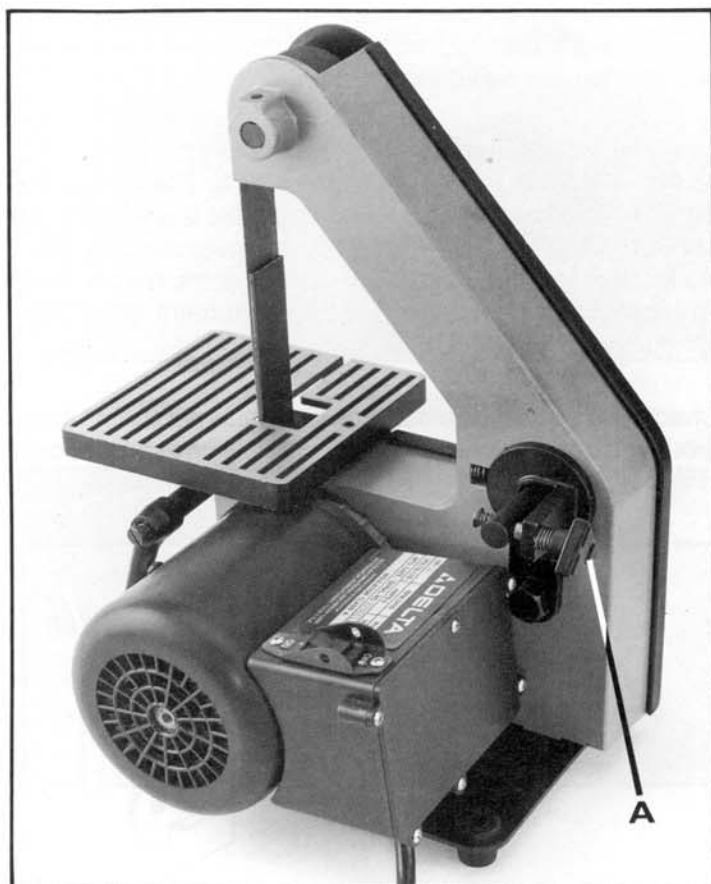

Fig. 12
The belt tracking adjustment is set at the factory so that the abrasive belt will run true on the pulleys. If, however, the belt should lead to one side or the other on the pulleys, an adjustment can be made by turning the tracking knob (A) Fig. 12. Turning the knob (A) clockwise will move the belt to the right when facing the sander. Turning the knob (A) counterclockwise will move the belt to the left. **THIS ADJUSTMENT IS USUALLY VERY SLIGHT.**